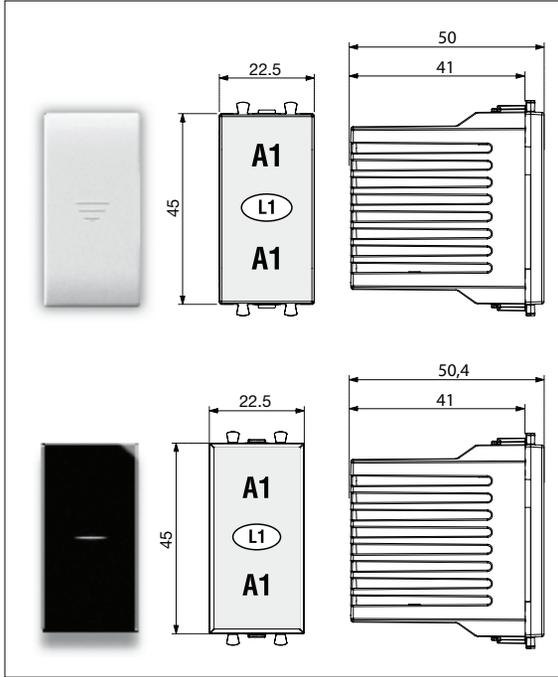

Figure 1
- Sensitive front area: the entire front of the apparatus (see fig. 1 area A1)
- rest the finger gently on the plate near the entire front of the device (see fig. 1)
- Front Led (L1) for locating in the dark (see fig. 1): when the hand approaches, the LED emits a brighter light.